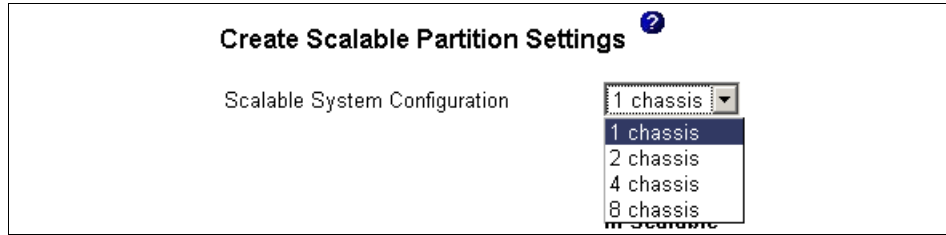

Figure 3-11 Number of chassis
4. Choose the number of chassis in the drop-down menu, as shown in Figure 3-11 on page 113.